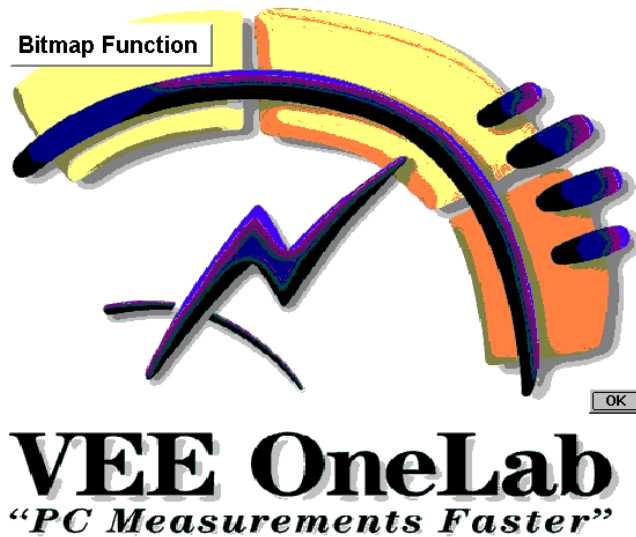

Figure 8-22. The Bitmap Function
8. Go to the Main window. Click `Device` $\Rightarrow$ `Call`, then click `Select Function` in the object menu, and choose `Bitmap`. Run the program. The pop-up box should look like Figure 8-22.